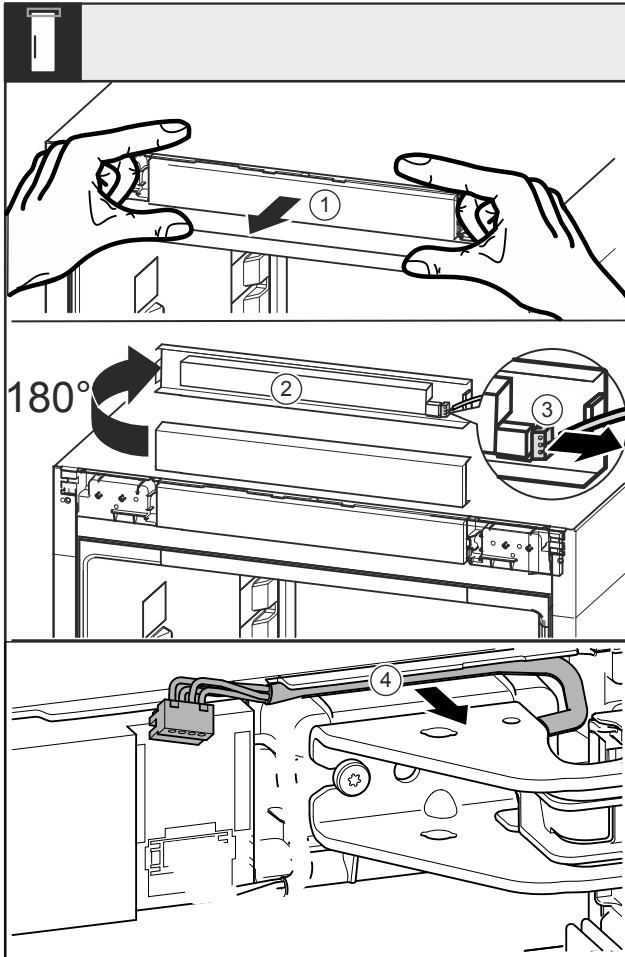

Fig. 15
- Loosen the faceplate Fig. 15 (1) toward the front.
- Turn the faceplate Fig. 15 (2) upward by 180°.
- Press the latching tab on the plug Fig. 15 (3) backwards and carefully pull out the plug.
- Loosen the cable Fig. 15 (4) above the swap bearing block from the guide.